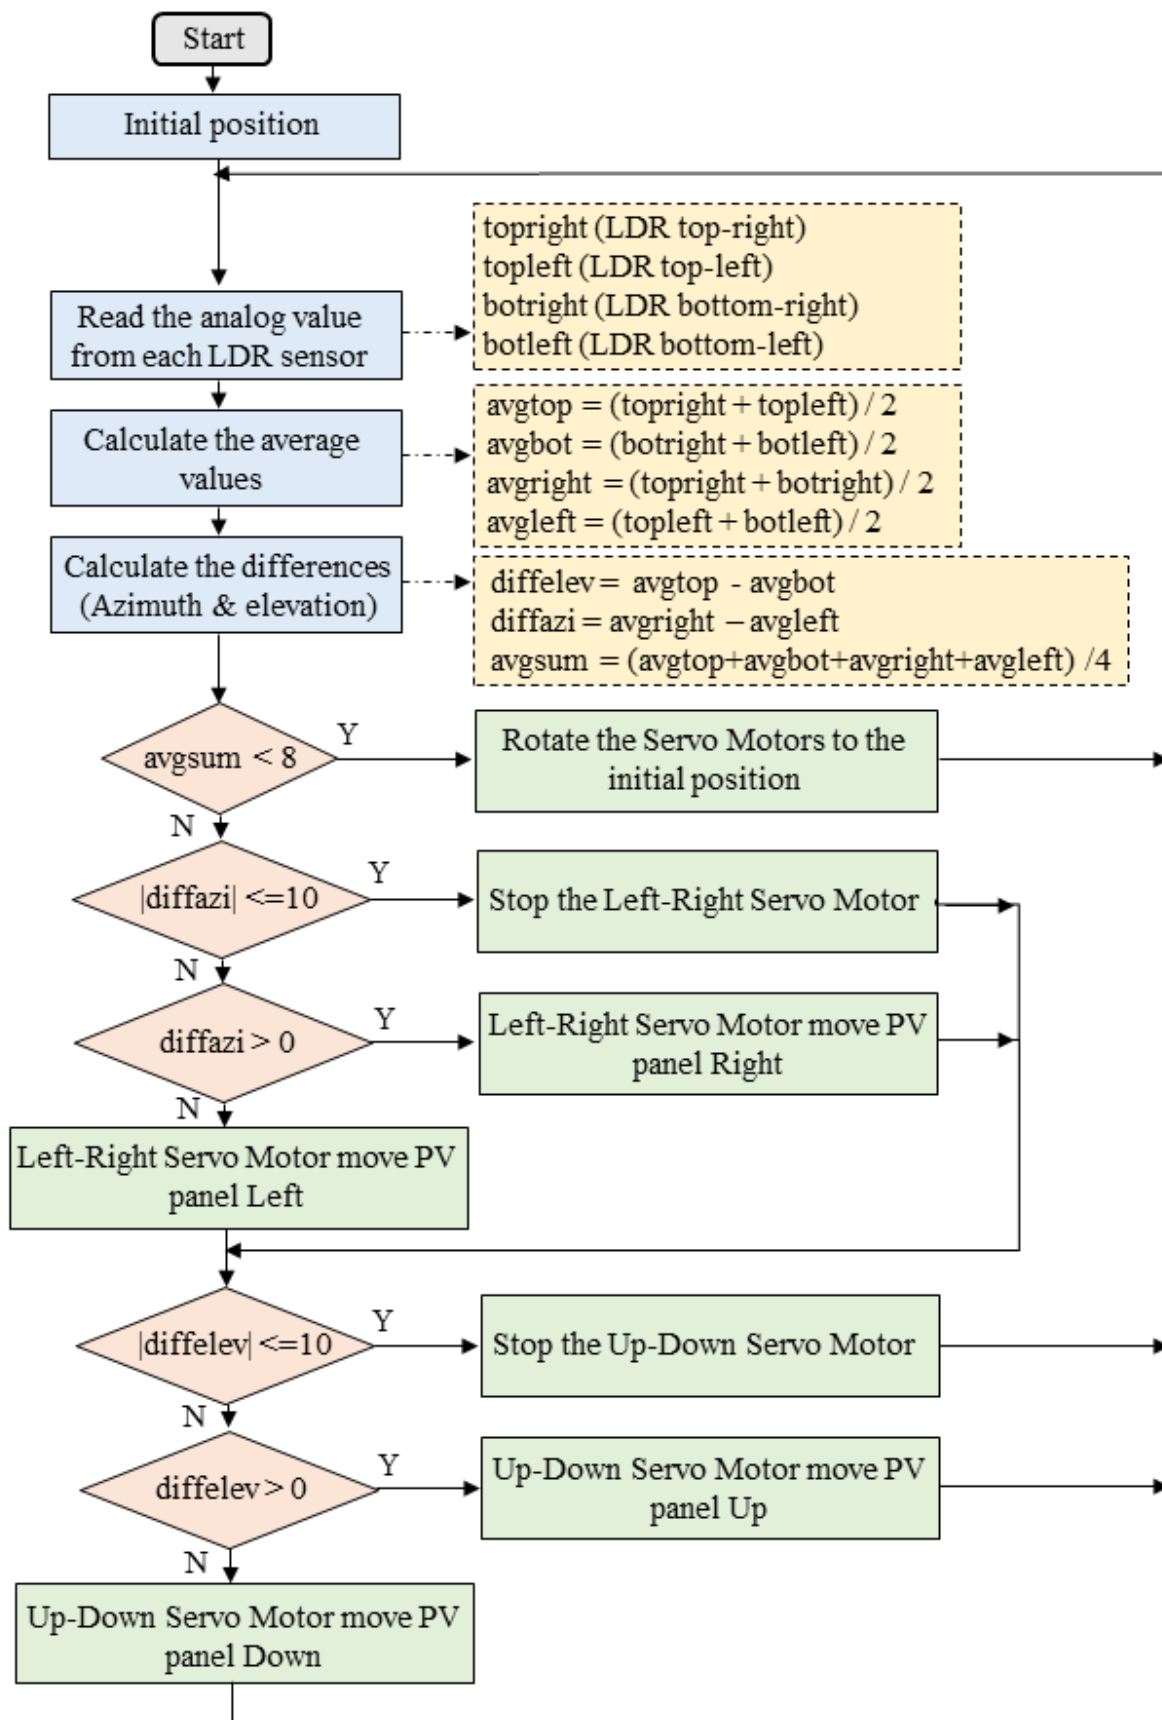

Fig. 4. The algorithm for automatic mode of the solar tracker
3. If the automatic mode is active, the algorithm presented in Fig. 4 will be executed. The latter uses the analog values returned by LDR sensors. For instance, considering azimuth or vertical axis, the average values from two right LDRs and two left LDRs are compared and if the left set of LDRs receives more light, the solar tracker will move in that direction through the left-right servomotor. The latter will continue to rotate until the difference result is in the range $[-10, 10]$. This range is used to stabilize the controller and once the solar tracker is perpendicular to the sun, no further control is made. On the other hand, if the right set of LDRs receive more light, the solar tracker moves in that direction through the left-right servomotor and will continue to rotate until the difference result is in the range $[-10, 10]$. The same way is used for the elevation axis. Moreover, we also determined the average radiation between the four LDR sensors and if this value is less than a little value (8: a value which has been adjusted and tested practically and is returned when the irradiation is null). That is to say, the night has come. In this case, the solar tracker must return to the sun's rising position. For example, if the sun's rising position can be reached by setting 0 degrees in the left-right servomotor, and 30 degrees in the up-down servomotor. This can easily be done through the C function "servox. write(angle)" provided by Arduino IDE.